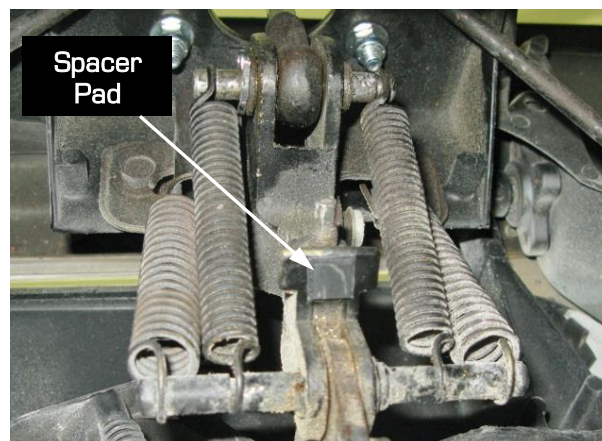

Figure 15 - Install Square Spacer Pad
15. Install the provided square spacer pads to the headlight door assembly on both sides of the vehicle (Figure 15). Make sure you clean the area with lacquer thinner or alcohol on the headlight assembly so the square pad will stick to the bracket.